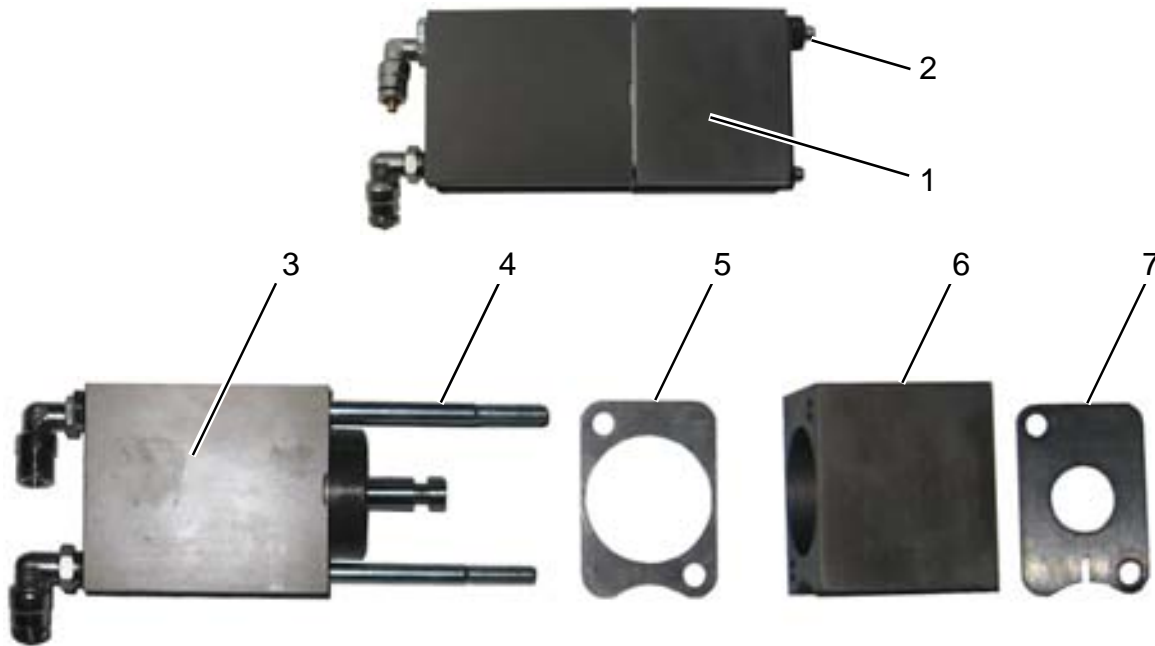
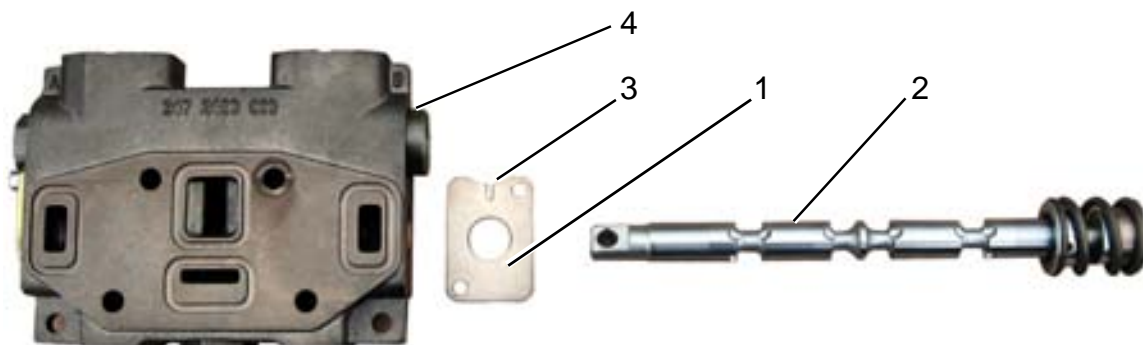

Figure 17
Figure 18
The air actuator kit (**Figure 17, 1**) is included with the AutoReach Soft-Stop System.
- Remove the nuts (**Figure 17, 2**) from the cap screws to disassemble the kit. Nuts will not be used and can be discarded.
- Slide the retainer plate (**Figure 17, 7**) (**Figure 18, 1**) over the spool assembly (**Figure 18, 2**). Align the curved end with slot (**Figure 18, 3**) on the retainer plate up to fit around relief valve port (**Figure 18, 4**).
- Install spacer (**Figure 17, 6**) and spacer plate (**Figure 17, 5**) over centering spring assembly of spool assembly. Install both with the curved side up for clearance with the relief valve port.
- The air actuator (**Figure 17, 3**) also has a curved side. Install the air actuator with the curved side up for clearance with the relief valve port.
- Apply two to three (2-3) drops of Loctite® Grade 609 Green to the threads of the two (2) cap screws (**Figure 17, 4**).